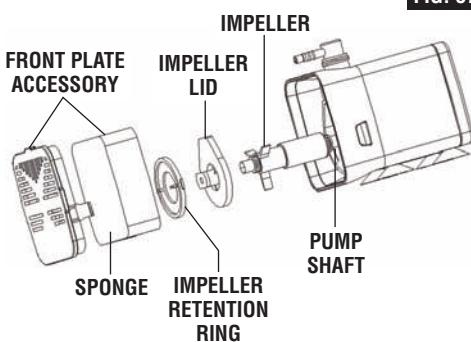

FIG. 37
3. Re-assemble the pump, referring to (Fig. 37).